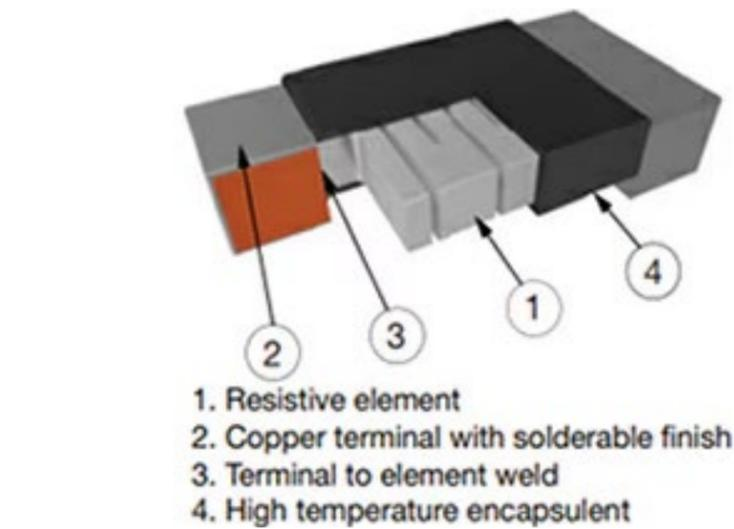

Figure 4: Typical construction of a Vishay Power Metal Strip resistor. (Image source: Vishay Dale)
2 in Figure 4) that is electron beam welded to a low TCR resistance alloy (item 1), achieving low values down to 0.1 mΩ with low TCR. However, the copper terminal has a high TCR (3900 ppm/°C) compared to the resistance alloy (< 20 ppm/°C), which